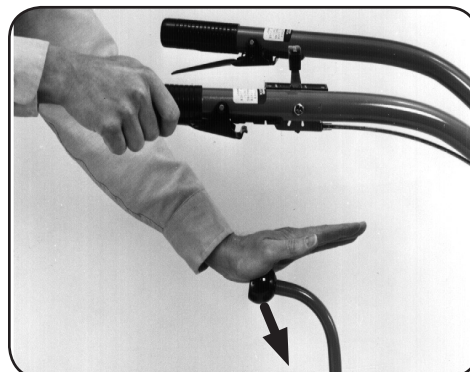

Figure 4-3
5. To move the tiller forward and engage the tines, squeeze and hold either Forward Interlock Lever against the handlebar grip (See Figure 4-3), then move the Wheels/Tines/PTO Drive Lever down to FORWARD position.